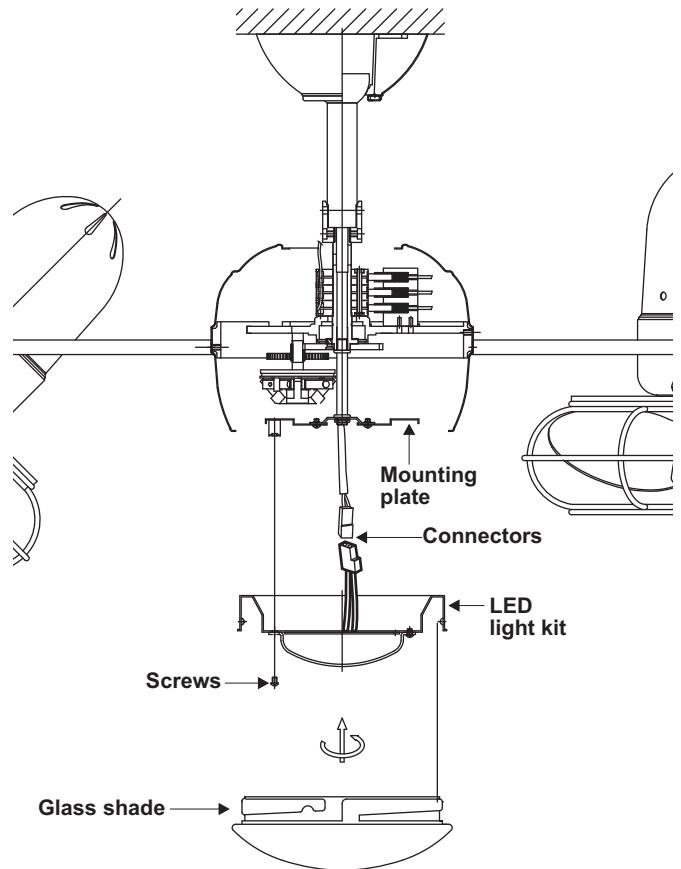

Figure 13
2. Raise and hold the LED light kit close to the mounting plate and proceed to do the wire connections. Connect the red and white wire connectors from the light kit and fan, follow the same procedure with the black wire connectors. (Fig. 13)